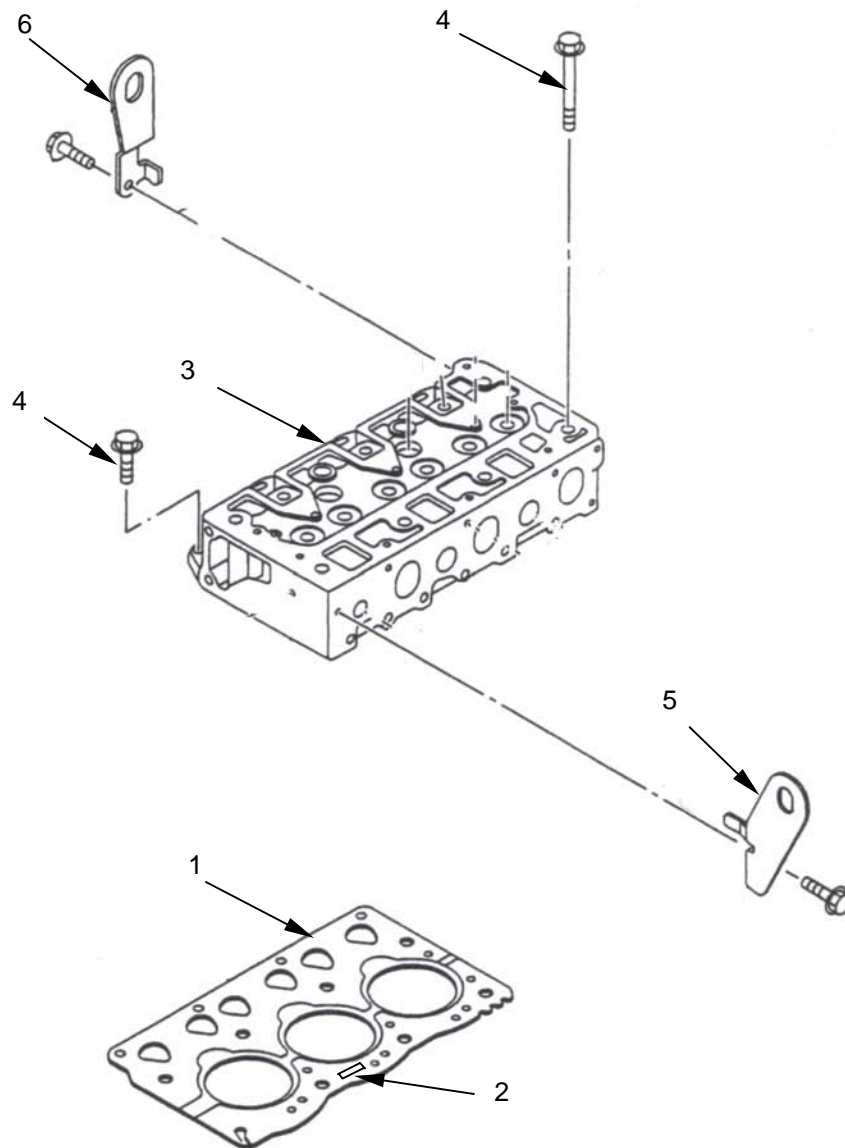

Figure 12. Cylinder Head
- b. Install the new head gasket (**figure 12, item 1**) with the stamp mark of the part number facing up (**figure 12, item 2**). The gasket part number is located between the No. 2 and No. 3 cylinders on the gasket.
- c. Install the cylinder head (**figure 12, item 3**) on the engine block.
- d. Lubricate the cylinder head mounting bolts (**figure 12, item 4**) with oil.
- h. Install and tighten front (**figure 12, item 5**) and rear hangers (**figure 12, item 6**) from 1.9 to 2.9 kg-m. (14 to 16 ft-lbs).